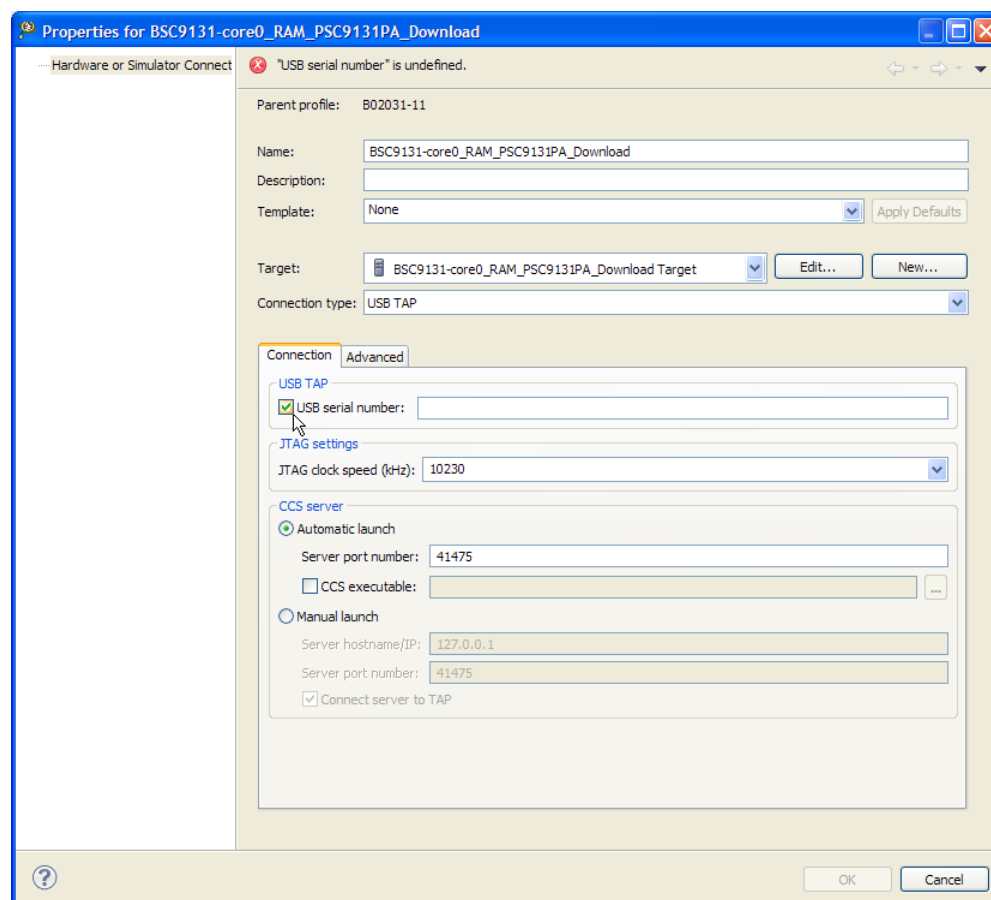

**Figure 24. Settings for the BSC9131 Power Architecture project**
3. For this example, a two-TAP scheme is used with the caches disabled, so choose the BSC9131-core0\_RAM\_PSC9131PA\_Download configuration. Note that the name also uses PSC9131PA, which specifies the two-TAP scheme. Details of the settings for this particular configuration appear at the right in the **Debug Configurations** window (Figure 24).